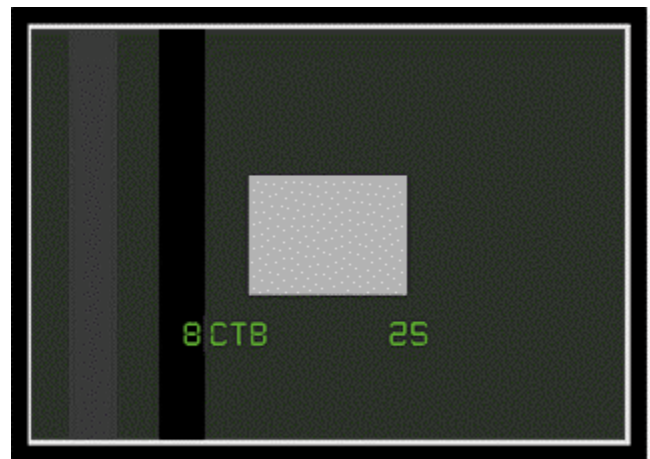

Fig. 4: Select the VP300 Window1 pattern and adjust the pattern to 30 IRE using the up/down arrow keys.
4. Open the ColorPro Setup window and choose the D65 White Reference, as shown in Figure 4.